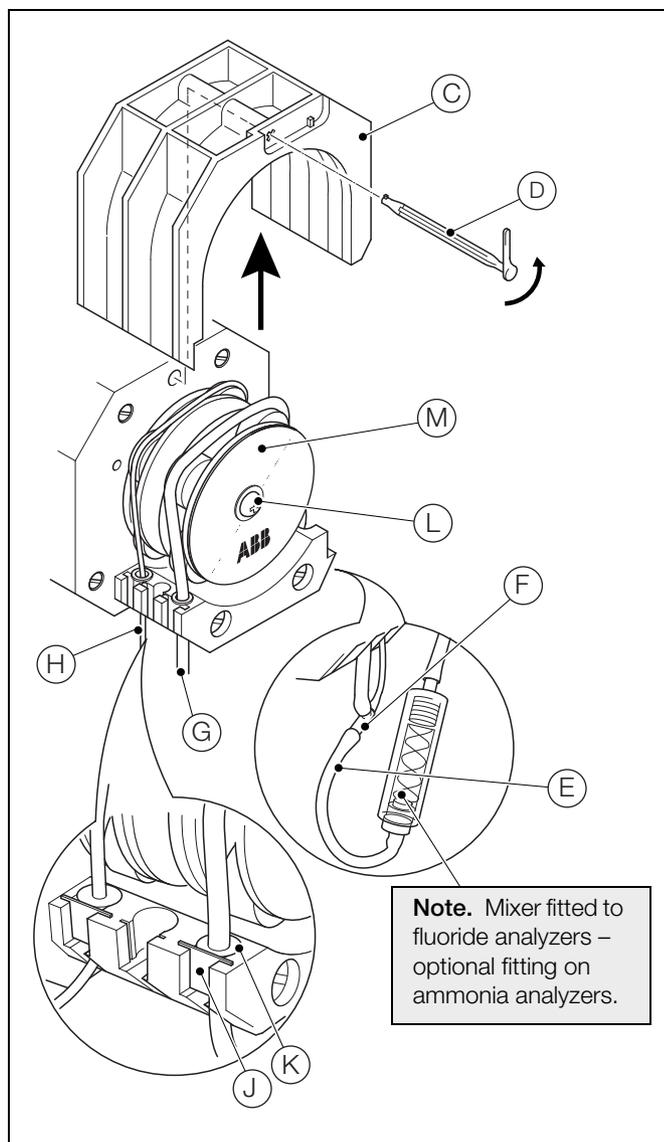

Fig. 13.2 Replacing the Pump Tubing and Capstans
## 3. Referring to Fig. 13.2:
3. Remove in-line mini barbed nipple connector (C), complete with reagent inlet tubing (D) and discard.
Connect one end of new in-line mini barbed nipple connector part no. 0214060 to reagent tubing – see (H) in Fig. 13.2.